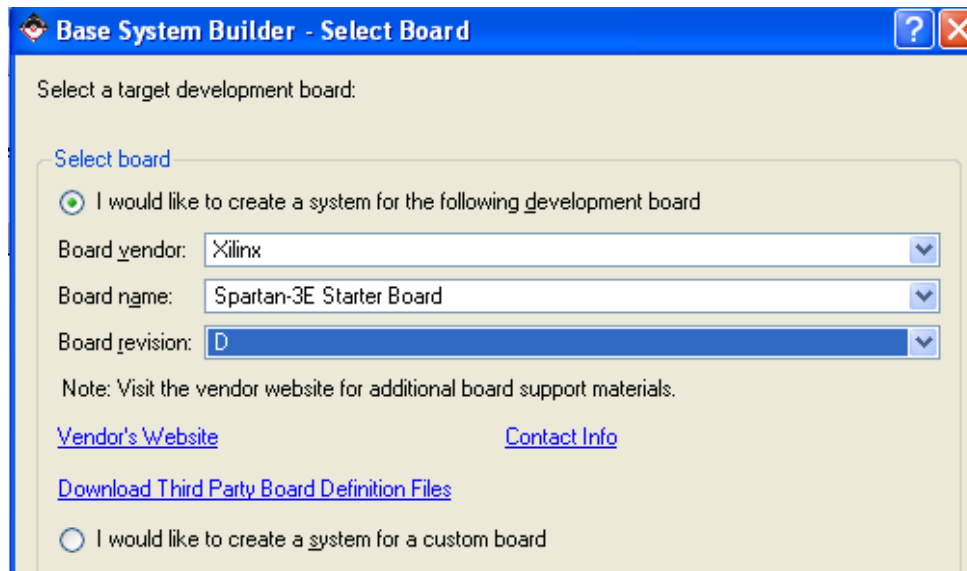

Figure 1-5. Select Board Dialog Box
- ❹ Select the **I would like to create a new design option** in the Welcome to Base System Builder dialog box and click **Next**.
- 5 In the **Select Board** dialog box, specify the settings below (**Figure 1-5**) and click **Next** to continue.